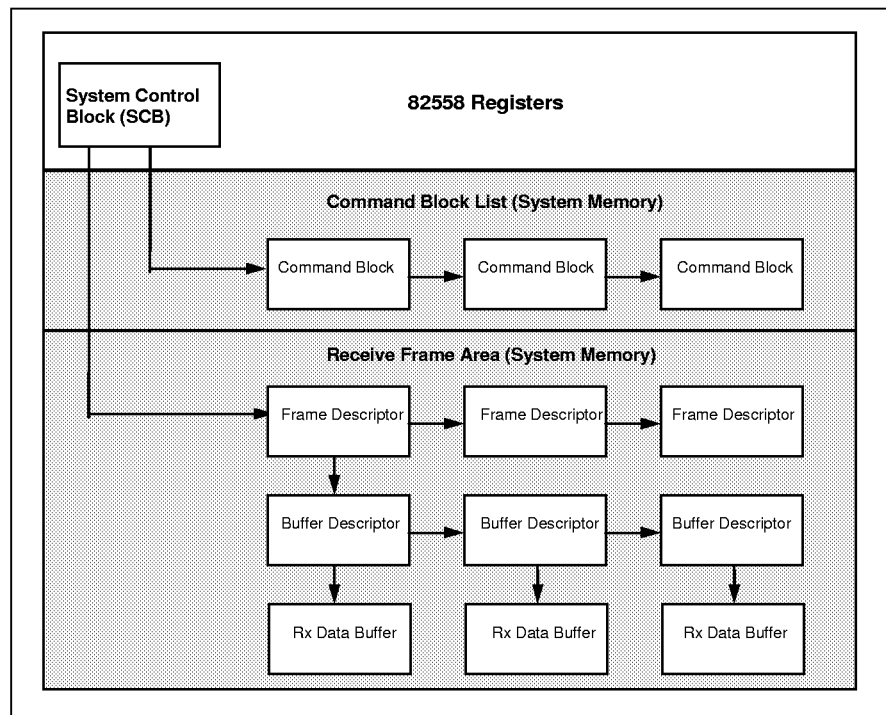

Figure 23. 82558 Shared Memory Structure
The host software controls the state of the 82558 Command Unit (CU) and Receive Unit (RU) (Active, Suspended or Idle) by writing commands to the SCB. The 82558 posts the status of the CU and RU in the SCB Status word and indicates status changes with an interrupt. The SCB also holds pointers to a linked list of action commands called the CBL and a linked list of receive resources called the RFA. Figure 23 shows this type of structure.